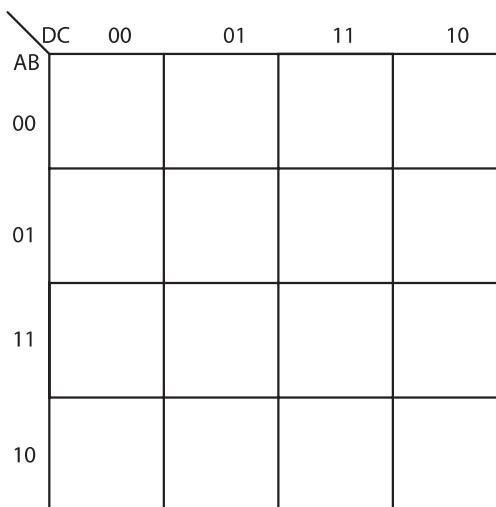

Figure 5.3: K-Map
- a. Repeat steps a through e for Table 5.4, Figure 5.3, and Figure 5.4.